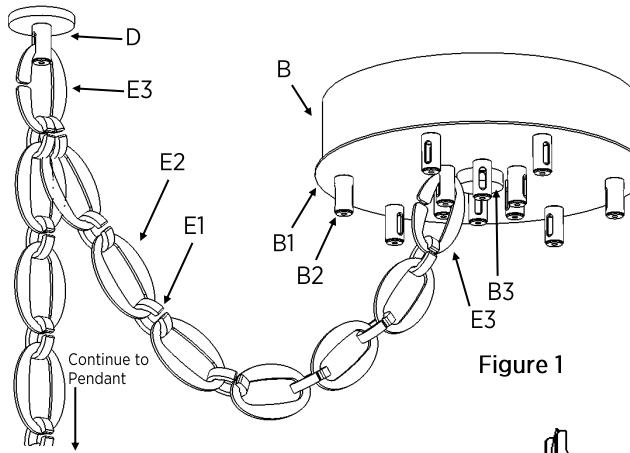

Figure 1
Step 5: Starting from the Open Chain Link (E3) attached to the mini canopy (D2) Assemble the chain by interlocking alternating Flat Chain Links (E2) and Ring Chain Links (E1) (See Figure 1 for example) until desired overall height for pendant is achieved. Then, starting from the Open Chain Link (E3) attached to the mini canopy (D2) once more, assemble the chain towards the main canopy until the distance between the main canopy and the mini canopy is covered.